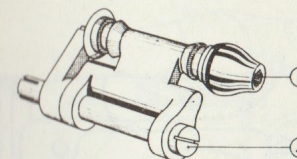

Fig. 26
2. Dismantling the rollers (Figs 26 and 27)